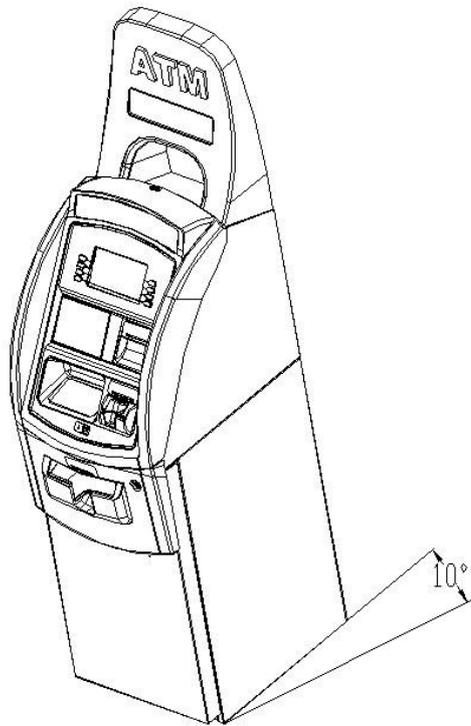

Fig. 4.6
- 2) Place the system on a flat surface, the system has a tendency to tip over if the surface is over 10 degrees. (refer to Fig 4.6) Be careful when opening the top or bottom of the machine s it will be off balance